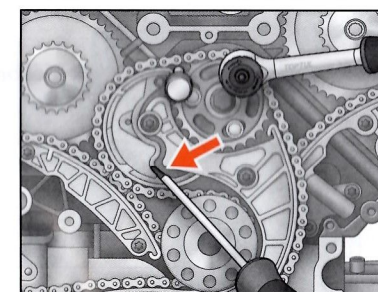

Fig.56
- (5) Using a lever, apply pressure to the tensioner guide rail, preloading the chain. While maintaining the pressure on the tensioner, tighten the three balance shaft sprocket bolts. Remove Balance Shaft Locking Pin (Part No.C). (Fig.56)